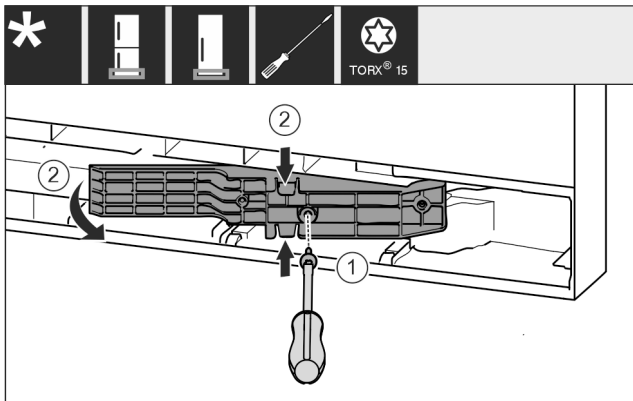

Fig. 18 \*
- ▶ Loosen the screws with a T15 screwdriver. Fig. 18 (1)\*
- ▶ Pull out the adapter. Fig. 18 (2)\*